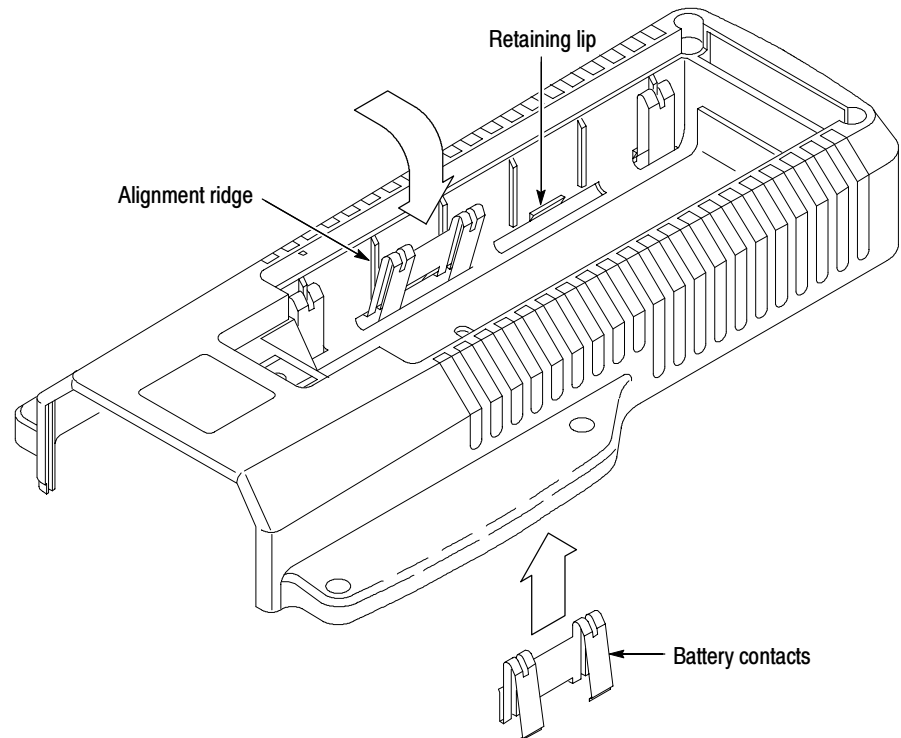

Figure 6-12: Battery contact installation alignment
3. Pry the battery contact past the retaining lip on the bottom cover. See Figure 6-12.
1. Align the slot in the battery contact with the battery contact alignment ridge on the bottom cover. See Figure 6-12.